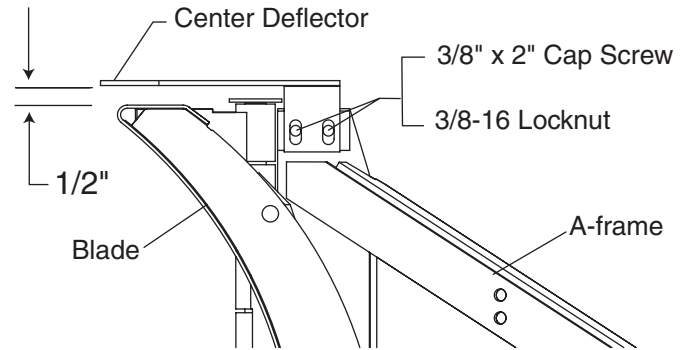

Figure 6
1. Slide the center deflector into place over the top of the hinge. (See Figure 6.)